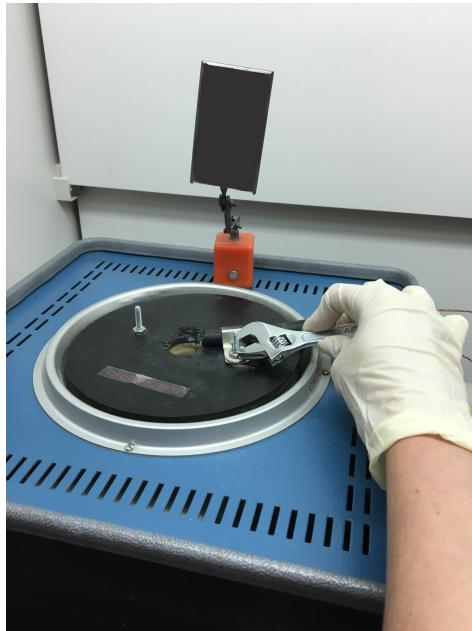

Figure 19: Position thermocouple 4 with the rubber hose and tighten
- \* Tighten the nut on the bracket hand tight and then give a half turn with a wrench to secure the nut (See Figure 19)